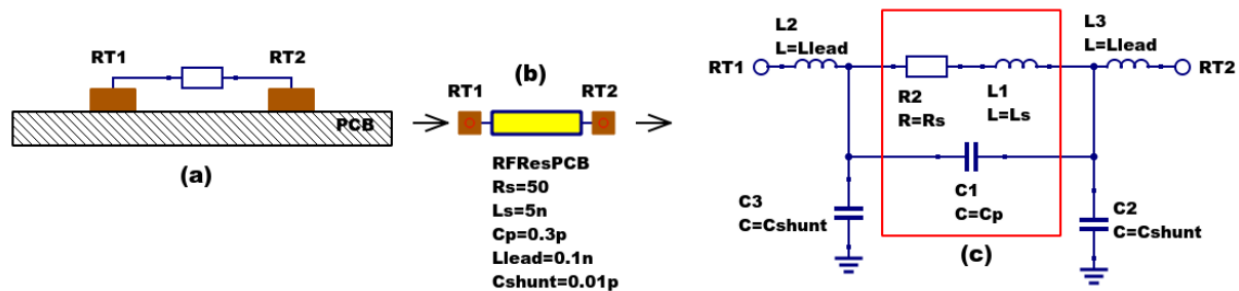

Figure 2 - PCB mounted resistor: (a) axial component mounting, (b) Qucs symbol and (c) equivalent circuit model.
The schematic symbol, I/V equation and parameters of the Qucs linear resistor model are shown in Figure 1. In contrast to this model Figure 2 illustrates the structure of a printed circuit board (PCB) mounted metal
film (MF) axial RF resistor (a), its Qucs schematic symbol (b) and its equivalent circuit model (c). A thin film surface mounted (SMD) resistor can also be represented by the model shown in Figure 2 (c).
At signal frequencies where the largest dimension of an axial or SMD resistor is less than approximately 20 times the smallest signal wavelength a resistor can be modelled by a lumped passive circuit consisting of a resistor **Rs** in series with a small inductance **Ls** with the combination shunted by parasitic capacitor **Cp**. In Figure 2 **Rs** is the nominal value of resistor at its parameter extraction temperature **Tnom**, **Ls** represents the inductance associated with **Rs** where the value of **Ls** is largely determined by the trimming method employed during component manufacture to set the value of **Rs** to a specified tolerance. Similarly, capacitor **Cp** models a parasitic capacitance associated with **Rs** where the value of **Cp** is a function of the physical size of **Rs**. At RF frequencies it is important, for accurate operation, to add lead parasitic elements to the intrinsic equivalent circuit model shown within the red box draw in Figure 2. In Figure 2 **Llead** and **Cshunt** represent resistor series lead inductance and shunt capacitance to ground respectively.
A typical set of model parameters for a 51Ω 5 % MF axial resistor are (1) **Ls** = 8nH, **Cp** = 1pF, **Llead** = 1nH and **Cshunt** = 0.1pF. Illustrated in Figure 3 is a basic S parameter test bench circuit for measuring the S parameters of an RF resistor over a frequency range 1 MHz to 1.3 GHz. This example also demonstrates how the real and imaginary parts of a resistor model impedance can be extracted from S parameter simulation data. The graphs in Figure 3 clearly demonstrate that the impedance of the typical MF RF resistor described in previous text and modelled by the equivalent circuit shown in Figure 2 is a strong function of frequency at higher frequencies in the band 1 MHz to 1.3 GHz.
Figure 8 - Qucs device model parameter extraction system applied to a nominal $47\ \Omega$ resistor represented by the subcircuit model illustrated in Figure 2 (c). Fixed model parameter values: $R_s = R_m = 47.3\ \Omega$, $C_{Shunt} = 0.08\text{pF}$; Optimised values: $L_s = L = 10.43\text{nH}$, $L_{lead} = LL = 1.47\text{nH}$, $C_p = C = 0.69\text{pF}$. To reduce simulation time the ASCO cost variance was set to $1\text{e-}3$. The ASCO method was set to DE/best/1/exp.
Figure 10 - Qucs simulation of nominal 47 Ω resistor based on theoretical analysis.Figure 11 - Qucs device model parameter extraction system applied to a nominal 1000 Ω resistor represented by the subcircuit model illustrated in Figure 2(c).
Figure 13 - Qucs device model parameter extraction system applied to a nominal $100\ \Omega$ SMD resistor represented by the subcircuit model illustrated in Figure 2 (c).
Listed below is an example Verilog-A code model for the RF resistor model introduced in Figure 2 (c). Due to the limitations of the Verilog-A language subset provided by version 2.3.4 of the "Analogue Device Model Synthesizer" (ADMS)⁴ inductors **Ls** and **Llead** are modelled by gyrators and capacitors with values identical to **Ls** or **Llead**.